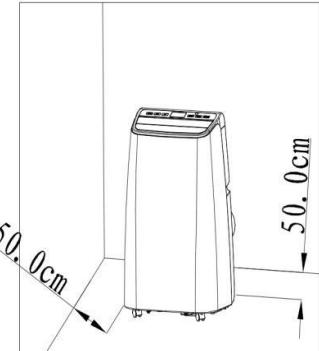

Figure 4
- Move the machine with installed exhaust pipe and fittings towards the window. Distance between the unit and adjacent walls or other objects shall be least 50 cm (as shown in Fig. 4).